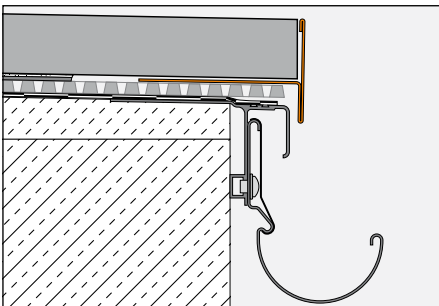

Fig. 2
Installation with self-supporting pavers on spots of mortar with BARA-RT / BARA-RTC (Fig. 2 and 3)
- 3.2 If the assembly is constructed on top of TROBA-PLUS with the thin-bed formwork rings Schlüter-TROBA-STELZ-DR (Fig. 2), the BARA-RT / BARA-RTC finishing profile will cover the exposed edge of the assembly. In this case, place the outer spots of thin-bed mortar on the trapezoid perforated anchoring leg of BARA-RT / BARA-RTC. Then install the self-supporting pavers over the spots of mortar.